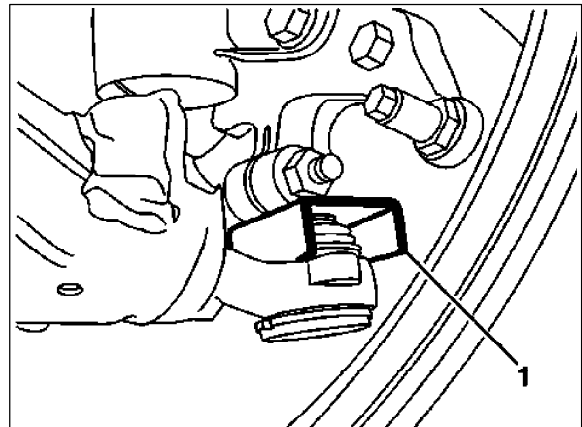

Figure 1
1. Ball joint must be replaced if Special Tool, part no. 201 589 10 23 00 (1, Figure 1) can be inserted completely, by hand, without much resistance and without the use of any tools.